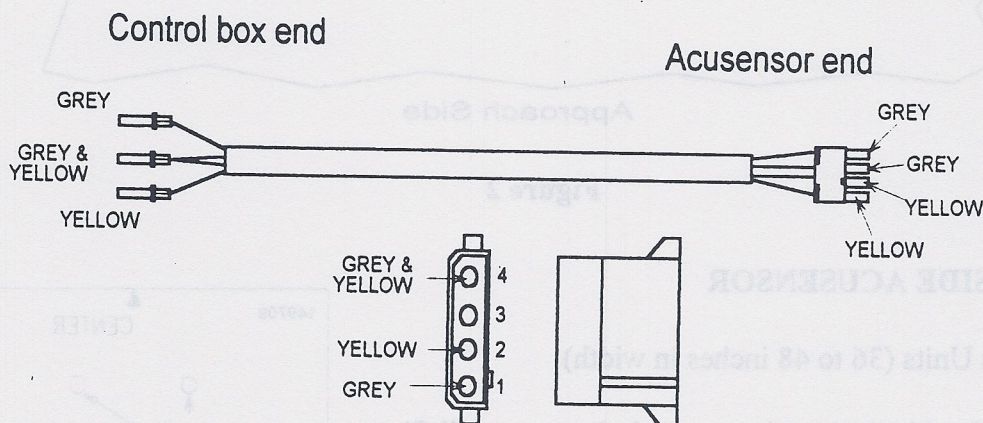

Figure 1
3. Plug the Acusensor harness into the connector on the Acusensor. Feed the pin end of the Acusensor harness through the wiring hole. Insert the pins into the supplied electrical connector (See Figure 1).